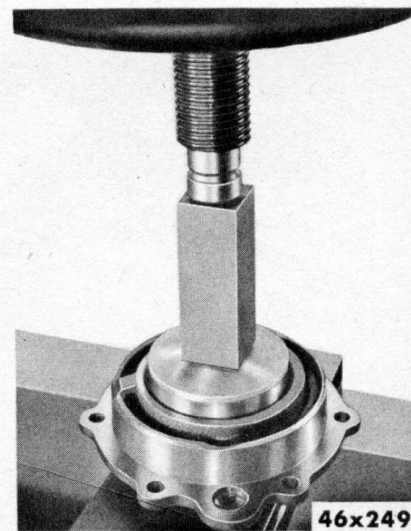

Fig. 82—Installing Bearing Cup in Differential Cross Shaft Cap—Tool DD-966
- (12) Install bearing retaining plates. Tighten cap screws to the correct torque and install lock wire.
- (13) If new bearing cups are to be installed (Fig. 82) cage and housing must be clean and cups must be pressed squarely and firmly against the shoulders.